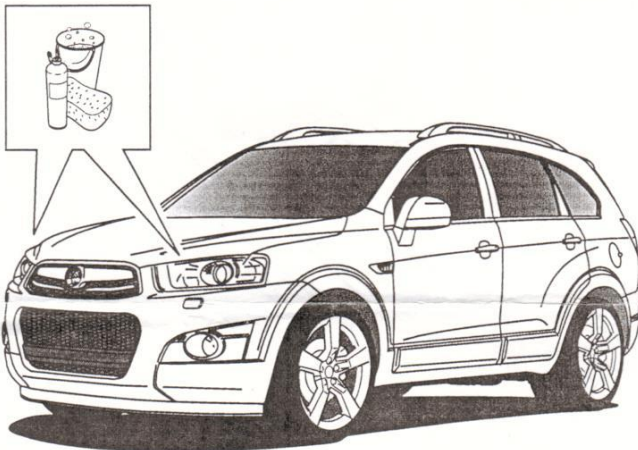

FIGURE 1
1. Read instructions thoroughly before commencing fitment. Wash and dry the vehicle. Open the bonnet and thoroughly clean underneath the forward edge of the bonnet. Refer to figure 1.